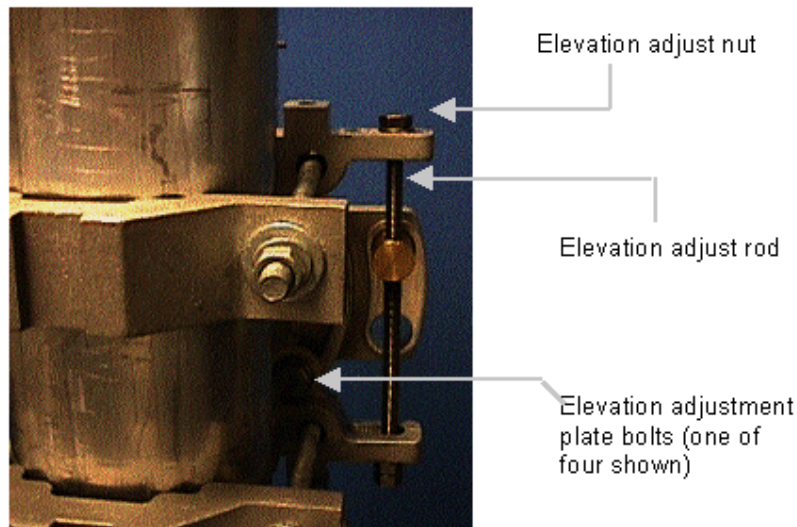

Figure 9-12: Uplook Adjustment
1. Referring to Figure 9-12, using a 1/2" or adjustable wrench, rotate the elevation rod adjust nut counter clockwise to the required position.
1. Referring to Figure 9-12, using a 1/2" or adjustable wrench, rotate the elevation rod adjust nut clockwise to the required position.